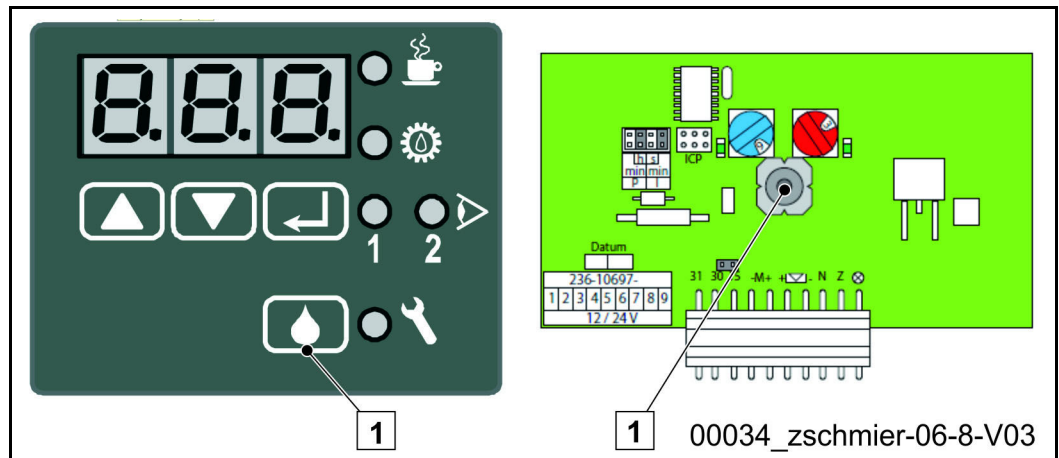

Fig. 484 Trigger (1) for intermediate lubrication
If additional lubrication appears necessary under certain operating conditions, you can trigger intermediate lubrication by pressing the button (1) (**Fig. 484**) (for type B, press for at least 2 seconds) while the above conditions are met.